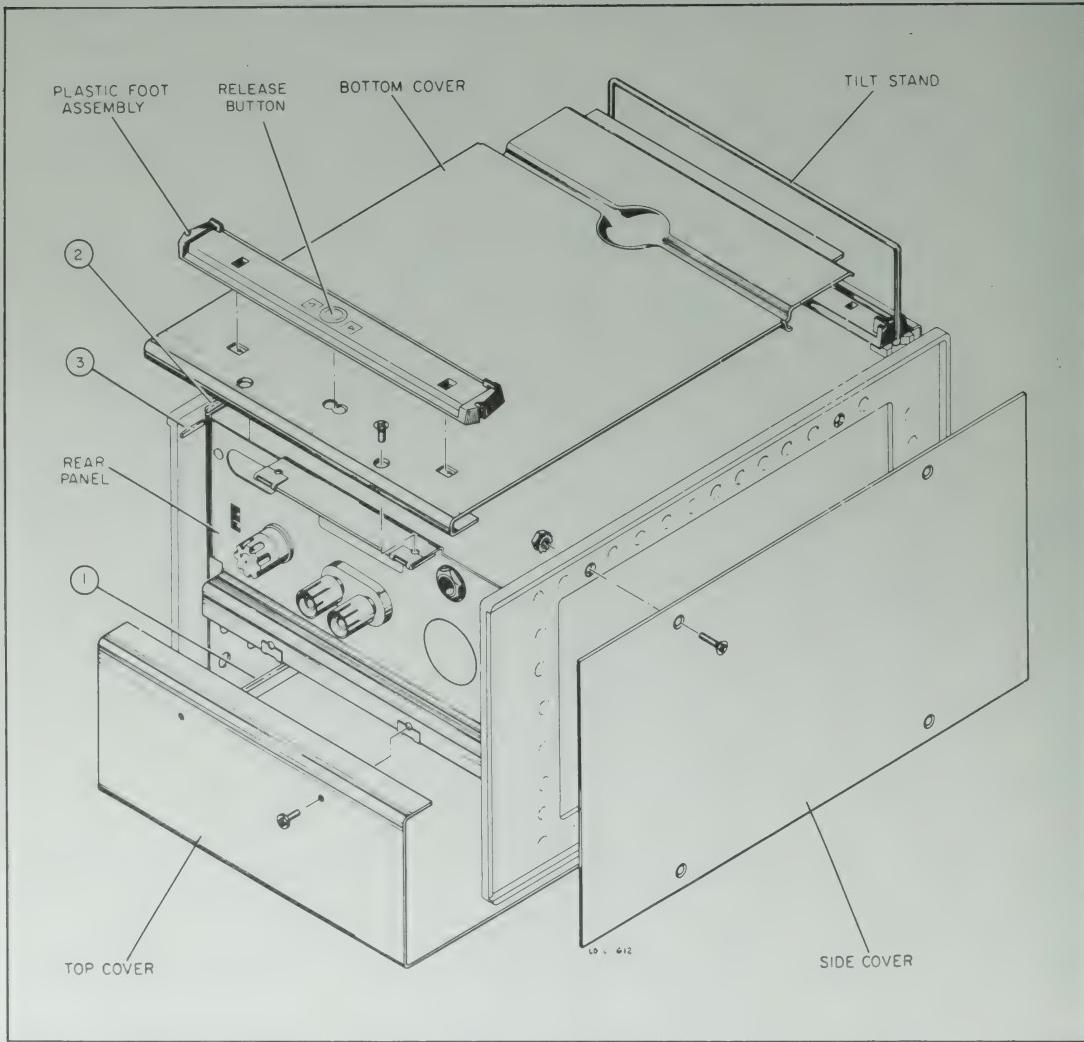

Figure 5-1. Cover Removal
5-5. Refer to figure 5-1 when removing instrument covers. Removal of the top cover exposes the circuit areas shown in figure 5-2. Routine checks and adjustments can be performed without the removal of other covers. However, operations such as soldering on
- Rest the cover flat on the cast guides projecting inward near the top of each side frame (see ①, figure 5-1).
- a. Set the tilt stand as shown in figure 5-1.
- b. Rest the bottom cover flat on the cast guides projecting inward near the bottom of each side frame (see (2), figure 5-1).
- c. Slide the cover forward on the guides so that the formed portion at the rear of the cover slides over the two short projections at the rear corner of each side frame (see (3), figure 5-1).